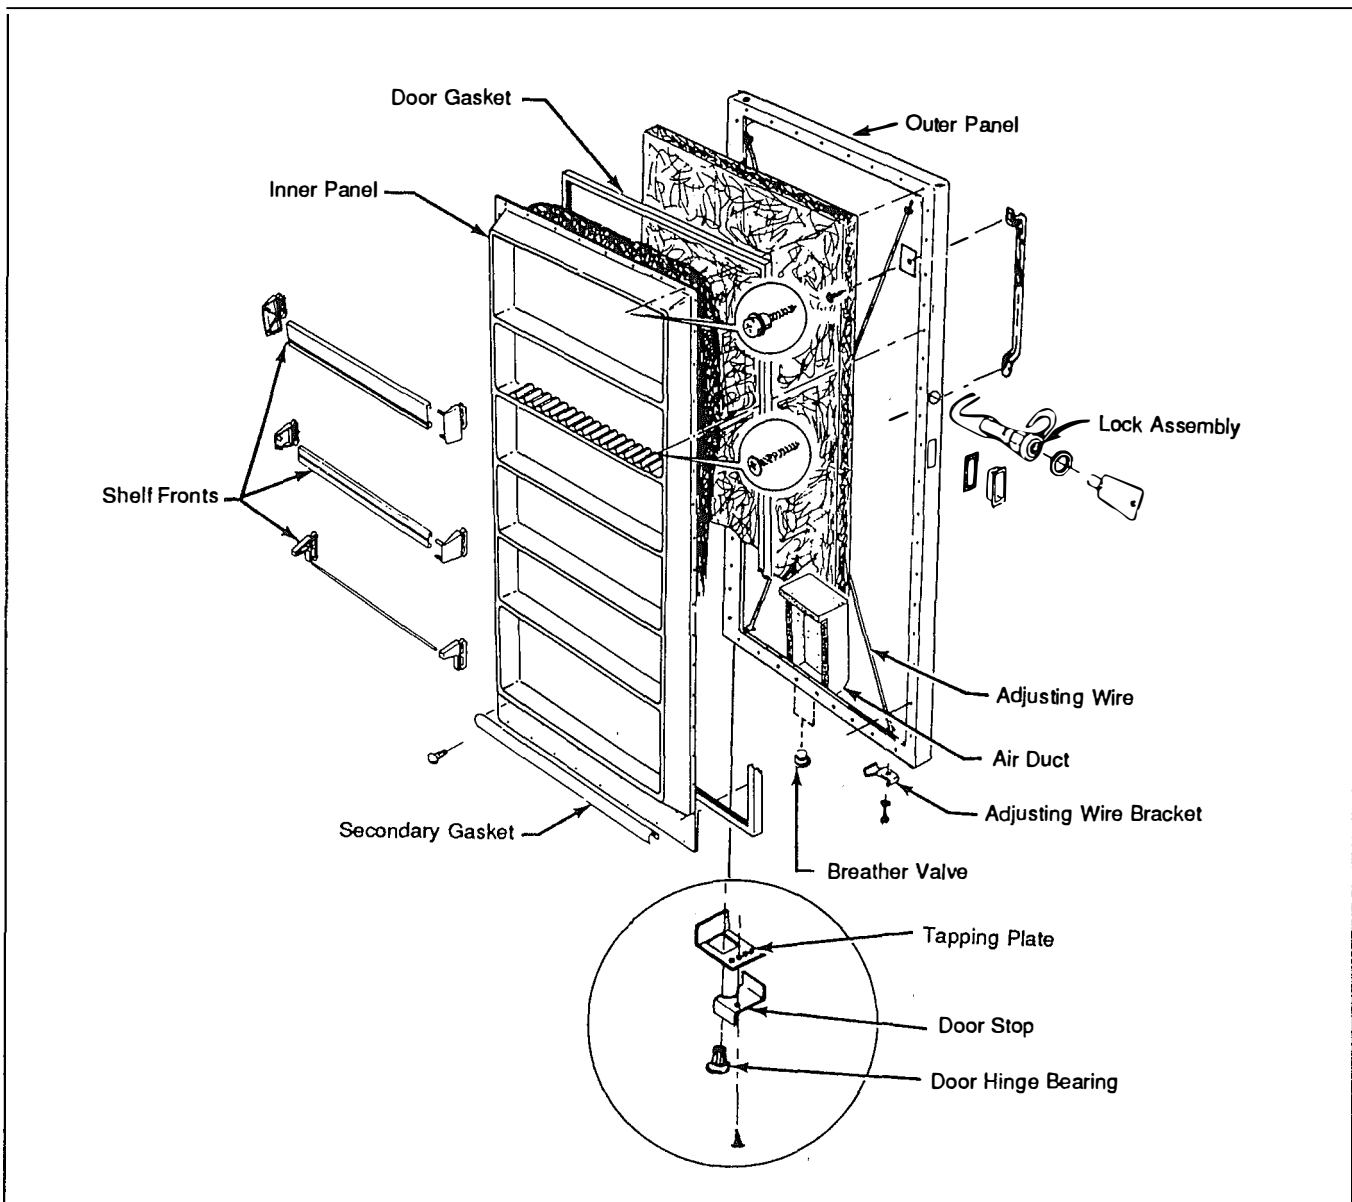

Figure B7 - Upright Freezer Door Assembly
The door assembly consists of an outer door panel, fiberglass insulation, an inner door panel and a vinyl door gasket all held together with screws around the door perimeter. See Figure B7.
Adjustable cross-wires are used on all models larger than 10 cubic feet, and door breather valves are used on all manual defrost models. See Figure B7.
Door optional features found on the various models include recessed or face mounted handles, locks, wide or narrow door shelf fronts, rod type shelf fronts, door stops and ramp type door closers. See Figure B7.
2. Place the door on a flat surface that is padded, or otherwise protected, to prevent scratching the door or work surface. See Figure B7.
the outer door panel, and lift the inner panel and gasket off the outer panel. Note the quantity and location of the shoulder type screws used at the four corners of the door. When assembling the door, the shoulder screws must go back into the same locations. See Figure B7.
2. Remove the lock hook by removing the hook mounting screw. See Figure B7.
3. Slide the lock retainer off the lock body and remove the lock from the door opening. See Figure B7.
The door stop, on models so equipped, consists of a formed steel bracket that is attached with screws to the bottom flange of the door, near the lower hinge. When the freezer door is opened about 160 to 165 degrees, the stop will bear against the lower door hinge and prevent the door from being opened further. A heavy steel tapping plate, inside the door, provides the extra support required by the door stop. See Figure B7.
All upright models, except 10 cubic foot, are equipped with adjustable cross-wires within the door. The cross-wires provide stiffness to the door to maintain correct alignment and door gasket seal. The two cross-wires are firmly attached to the upper corners of the door, and each runs diagonally to the opposite bottom corner. The cross-wires are attached at the bottom corners with adjusting brackets and screws. See Figure B7.
The air breather valves snap into holes in the bottom flange of the door, and are easily removed by pulling straight out. See Figure B7.
The air duct is accessible by disassembling the door. See Figure B7.